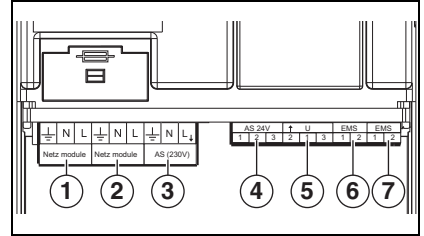
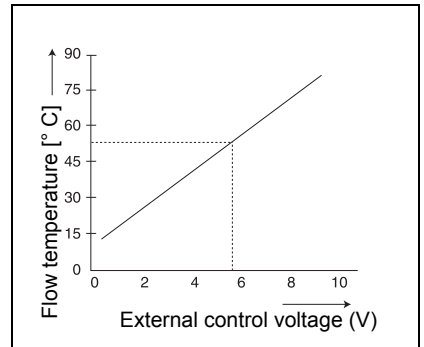

Fig. 2 Connections
Fig. 3 0-10 V diagram
a) The AS 24 V connection (→ fig. 2, [4]), this is a potential-free switching contact for low voltage signals of up to 24 V. This malfunction signal can for example, be evaluated by a building management system.
b) The AS 230 V connection (→ fig. 2, [3]), this can for example operate a horn or warning light. In case of a malfunction, there will be 230 VAC on this connection.
The EM10 can be used as an interface between the control unit and a building management system, for example. With the 0-10 V DC signal (→ fig. 2, [5]), the flow temperature or the power of the boiler can be controlled (→ fig. 3).
This control is activated if pins 1 and 3 are bridged (→ fig. 2, [5] and the wiring diagram on page 46). The EM10 defaults a percentage output via the 0-10 V signal from the control unit, → tab. 2.